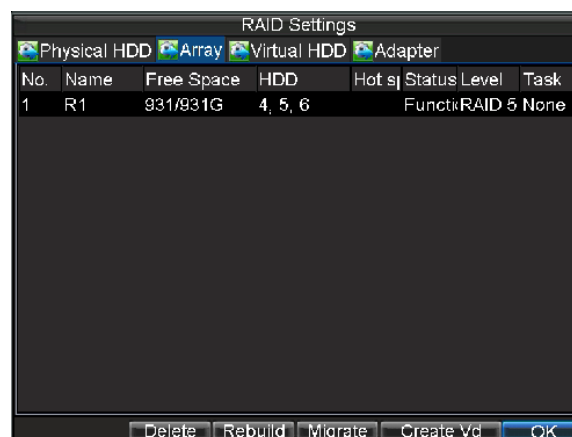

Figure 18. Array
2. Select the **Array** tab to enter the Array interface, as shown in Figure 18.